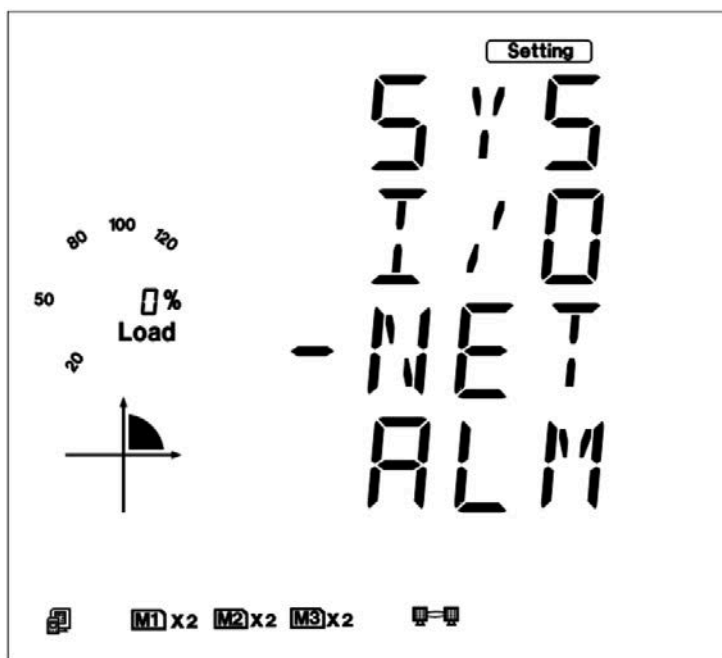

Fig 5-81
g). Set DNS Primary Server in the fifth setting page, such as 202.106.0.20. Press the "V/A" key to go to the setting page. Users may set the parameters pointed out in Fig 5-81. The cursor starts at the first digit. After setting the DNS Primary Server, press the "V/A" key to accept. Press the "P" key to go to the sixth setting page for DNS Secondary Server.